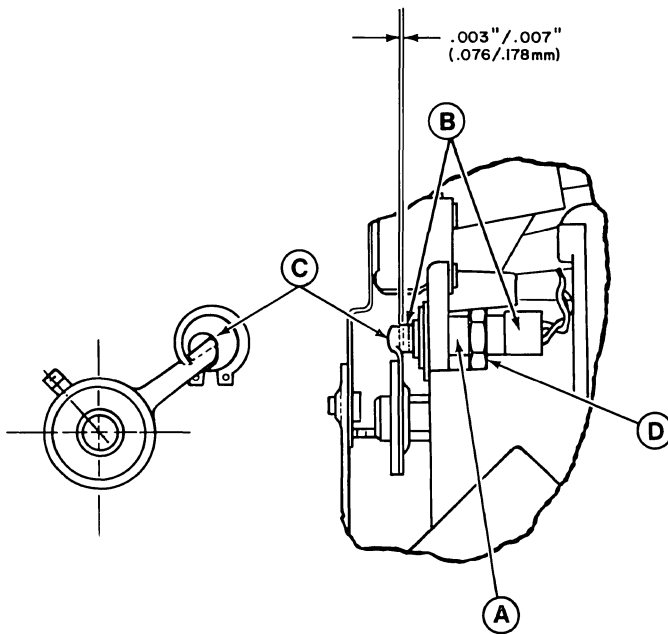
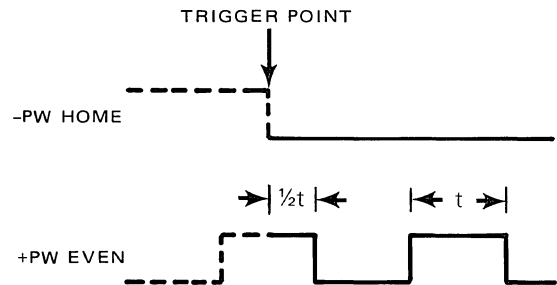
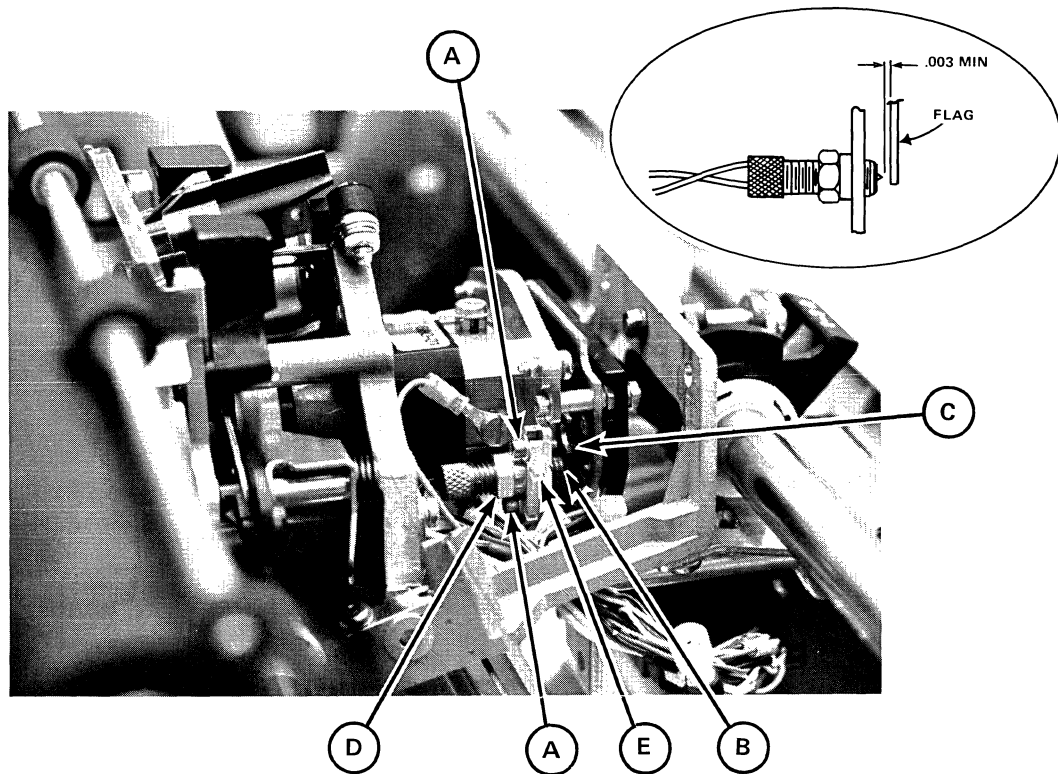
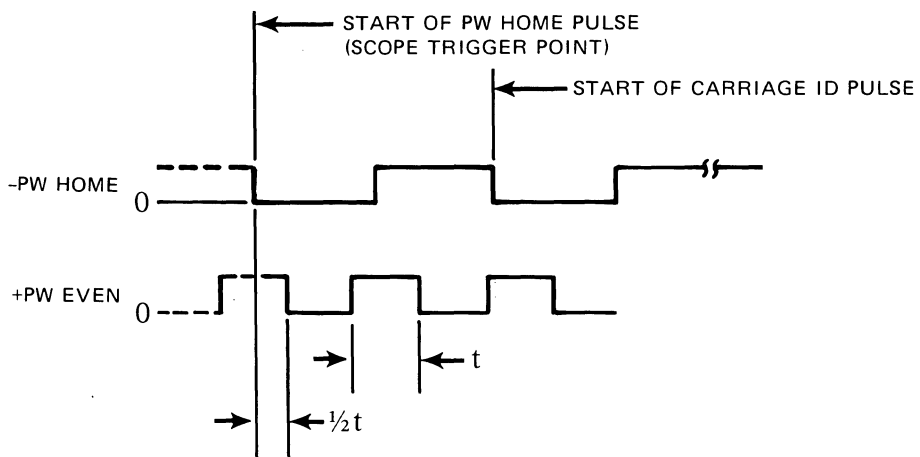

Figure 5-10.
Figure 5-11.
Figure 5-12. PRINT WHEEL HOME ALIGNMENT (ECS Carriage)
Figure 5-13. PRINT WHEEL HOME ADJUSTMENT WAVEFORMS (ECS Carriage)
Note: In the next step (8), to avoid the need for a delayed-sweep oscilloscope it is necessary to trigger the scope on the same signal edge that is used as the adjustment reference point (see Fig. 5-11/5-13). It is imperative that the scope be accurately triggered. Also, closely check the time span of one of the complete +PW EVEN pulses in the display so that the adjustment reference point (starting point of scope sweep at left edge of the display) can be accurately adjusted to coincide with the midpoint of a +PW EVEN high period, as shown in Figure 5-11/5-13.
Using a 7/16" open-end wrench, adjust the home sensor eccentric (Item A, Figure 5-10) to obtain the timing relationship shown in Figure 5-11. The negative edge of -PW HOME should occur at the midpoint of a +PW EVEN high period.
- a. Using a 5/64" hex L-wrench, slightly loosen the two socket head screws (A) holding the home sensor assembly (Fig. 5-12).
- b. With a screwdriver blade in the adjustment slot (E in Fig. 5-12), adjust the home sensor up or down to obtain the timing relationship shown in Figure 5-13. The negative edge of -PW HOME should occur at the midpoint of a +PW EVEN high period.
- c. Tighten the two screws (A) and recheck the timing waveforms.
Refer to Figure 5-10 (non-ECS carriage) or Figure 5-12 (ECS carriage).